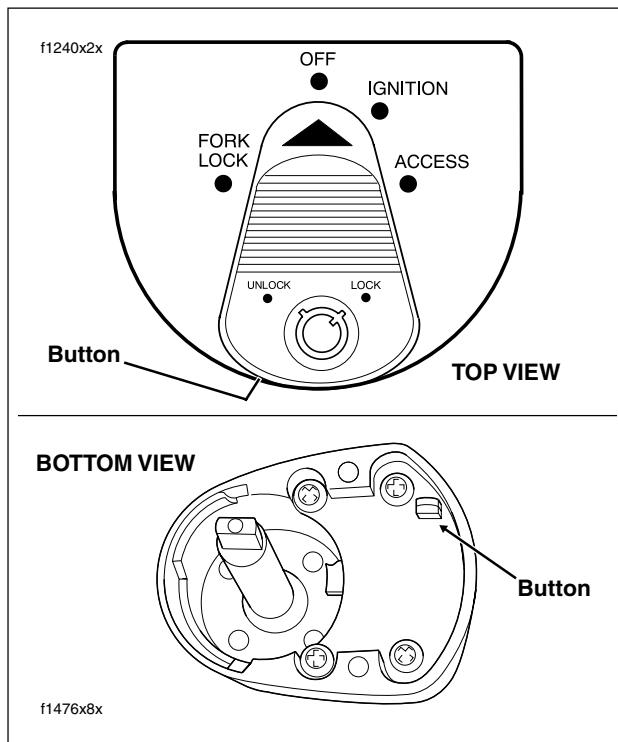

Figure 8-74. Ignition Switch Knob Release Button
- See Figure 8-74. To remove the ignition switch knob, insert the Ignition Switch key and turn to the UNLOCK position. Leaving the key installed, rotate the knob to ACCESS. Depressing the release button at bottom (left side) with a small screwdriver, push key down and turn an additional 60 degrees in a counter-clockwise direction. Lift and remove knob.